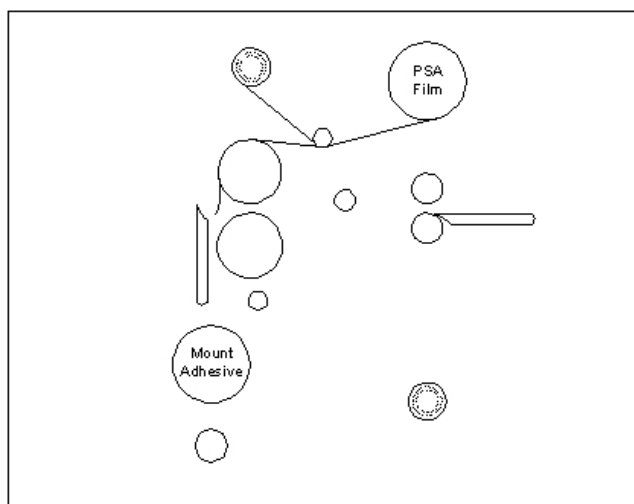

Fig 25
1. Turn the Power **ON/OFF** to on (I).
2. Load the rolls of film as illustrated in Figure 25. Ensure no brake tension is applied to the film shafts.
6. Make two full wraps around the rewind tube, then carefully score the laminate without cutting the release liner. Pull the laminate down allowing it to drape over the upper heat roller (Figure 25).